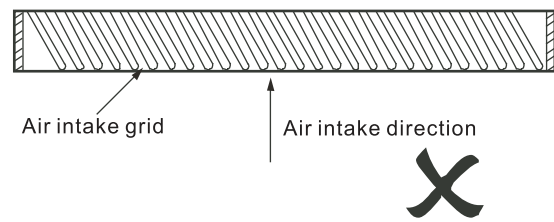

Figure 3.12
- 2) There shall not any angle between the air grid angle and the air intake direction. Otherwise, it may increase the noise. Figure 3.12 is the incorrect making method of the air intake grid.